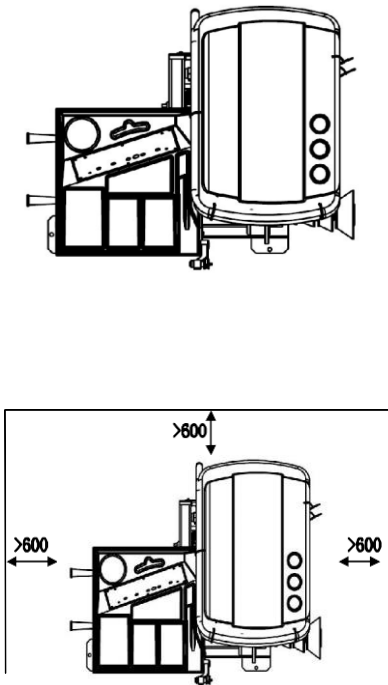

Fig 4
4. 1. 1 After being sure that the package of your machine is perfect, you can carry the wheel balancer to the installation site. (Fig3). The choice of the installation should comply with the following requirements. The ambient temperature is 0C -50°C and the RH $\leq 85\%$. And the installation site as shown in Fig4